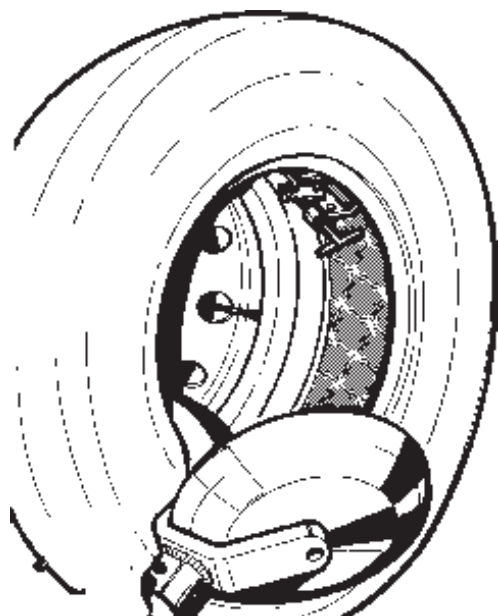

Fig.26
2. Position the mounting hook about 3/4" (1.5 cm) to the inside of the rim edge and 1/2" (1 cm) away radially. Rotate the chuck clockwise. Normally less than 1/4 of a revolution is sufficient to mount the first bead (Fig.26).